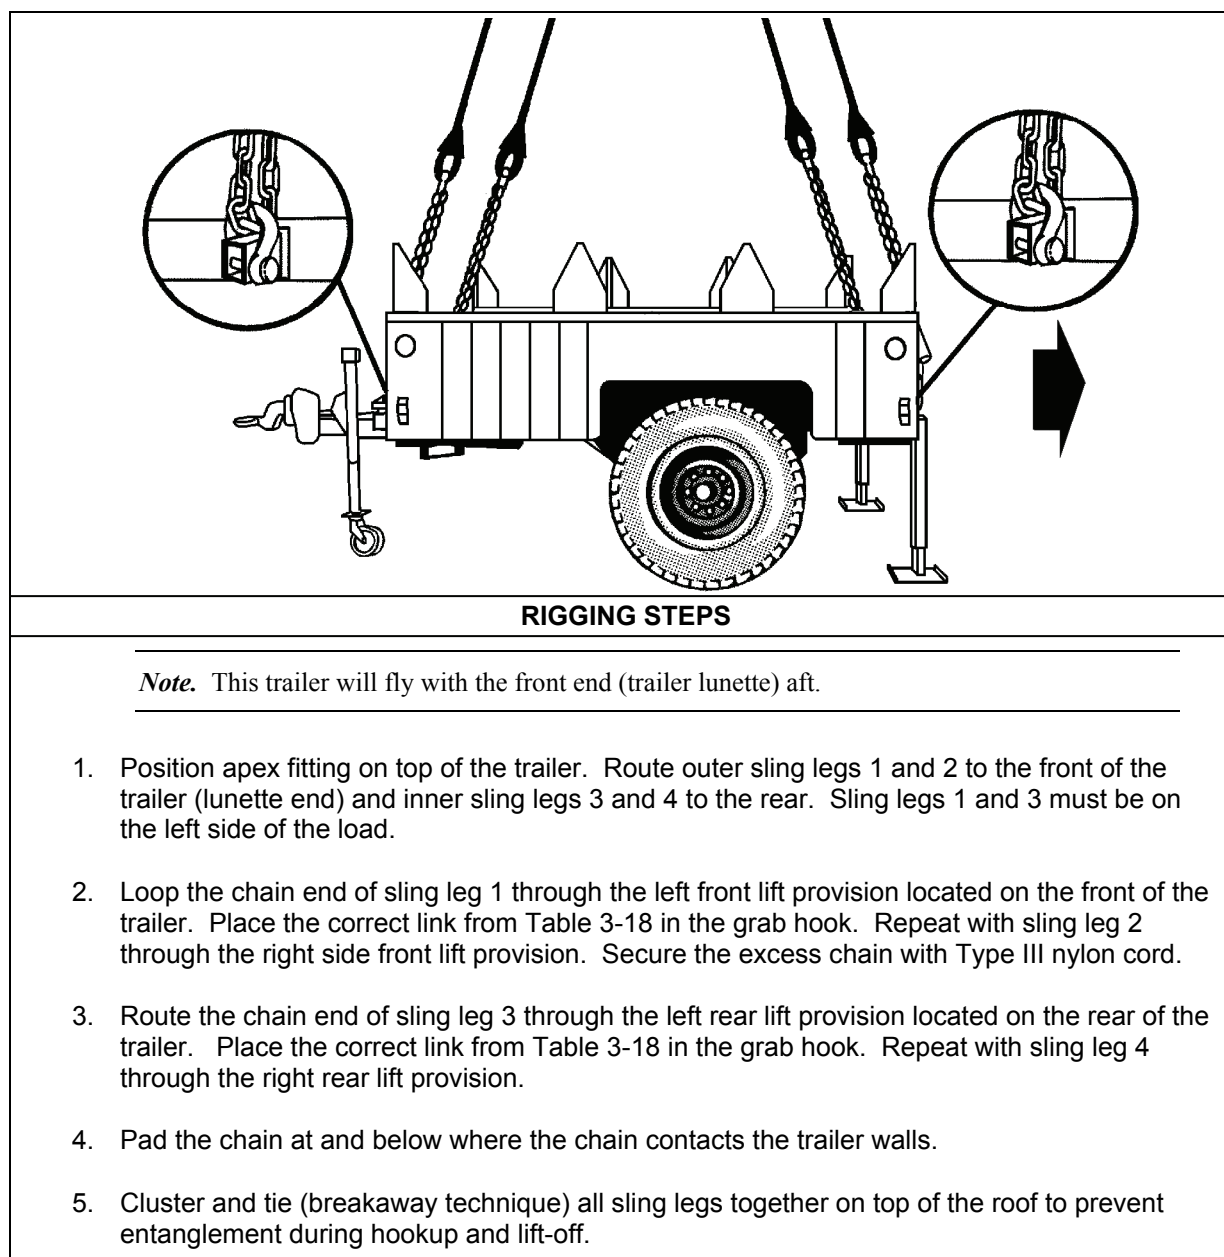

Figure 3-18. M1101/M1102 High Mobility Trailers
- **Rigging.** Rig the load according to the steps in Figure 3-18.